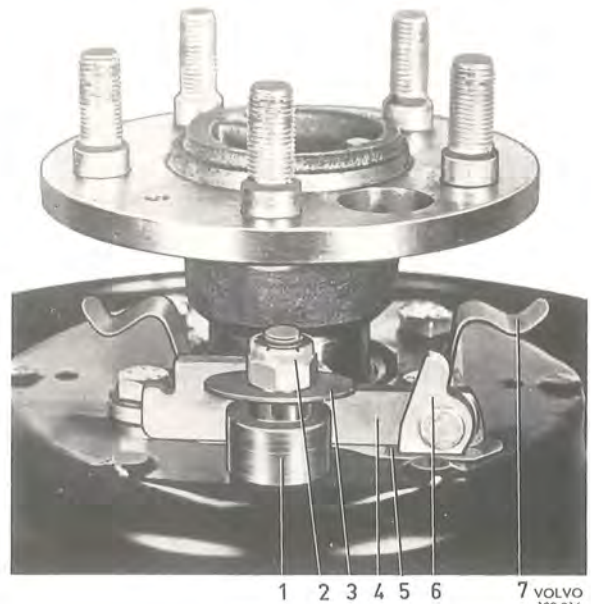

Fig. 5-87. Brake parts
2. Coat the 6 guide lips on the backing plate as well as the lever joint and adjusting screw with grease. Check that the lever and anchor bolt parts are correctly fitted, see Fig. 5-87.